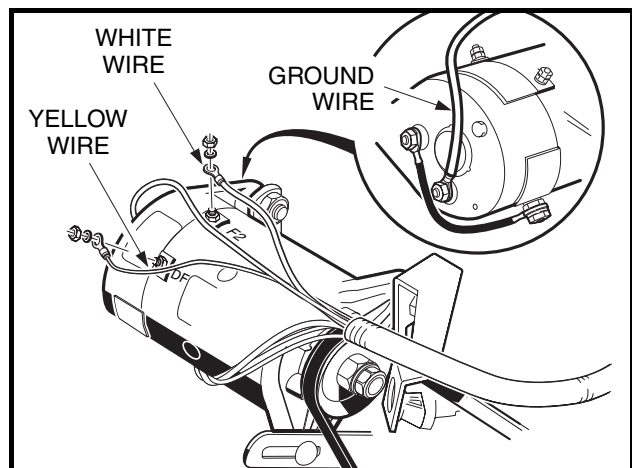

Figure 16-47 Starter/Generator
21. Connect the 6-gauge white wire to the F2 post, the 6-gauge black ground wire to the A2 post and tighten both wires to 48 in-lb (5.4 N·m). Connect the 16-gauge yellow wire to the DF post on the starter/generator and tighten to 30 in-lb (3.4 N·m) (**Figure 16-47, Page 16-19**).